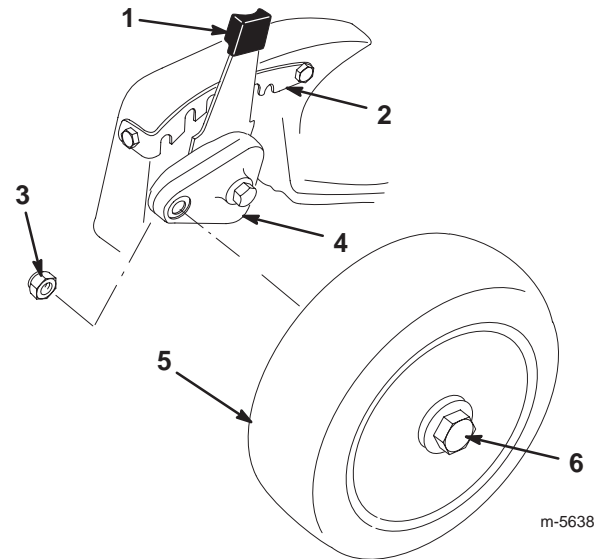

Figure 1
- Remove and set aside the wheel bolt and nut that secure each wheel to the pivot arm (Fig. 1).
- Move the front spring arms to the highest cutting height setting (Fig. 1).